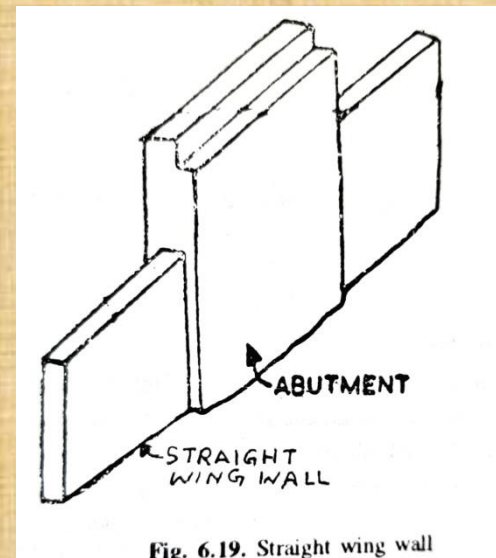

Fig. 6.19. Straight wing wall
**1. Straight wing walls.** This class of wing walls specially suited where the cost of land is very high such as for railway bridges in cities. The plan of this type of wing wall is shown in Fig. 6.19.